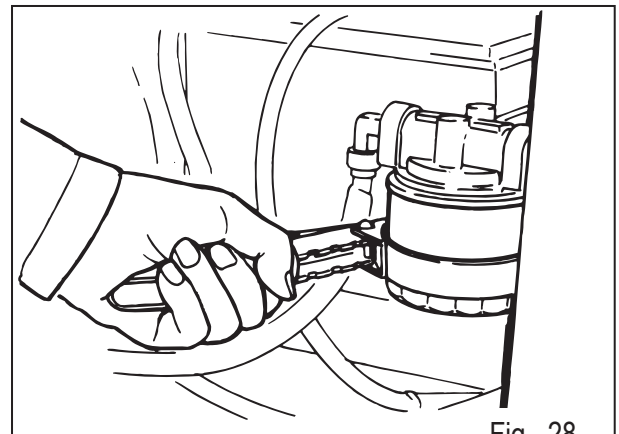

Fig. 28
a) Oil filter replacement (Fig.28)